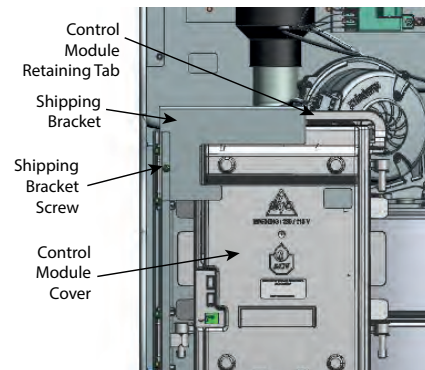

Fig. 8: Control Module
- Remove the screw holding the metal shipping bracket in place as shown in Fig. 8